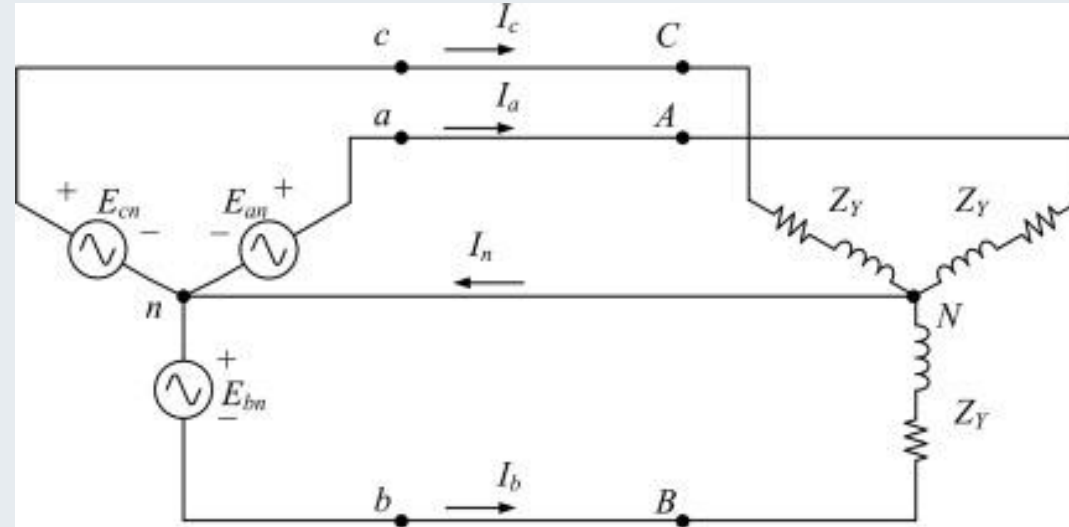

Figure 7. Balanced Three Phase system with No-Neutral current. url: <https://ars.els-cdn.com/content/image/1-s2.0-S1364032115017025-gr5.jpg>
- A balanced three-phase system which is presented in Fig.7 has :